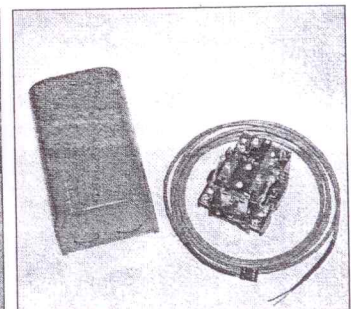

Figure 6
5. Install the Power Cutout Module, **Figure 6**, to the water heater as indicated below.